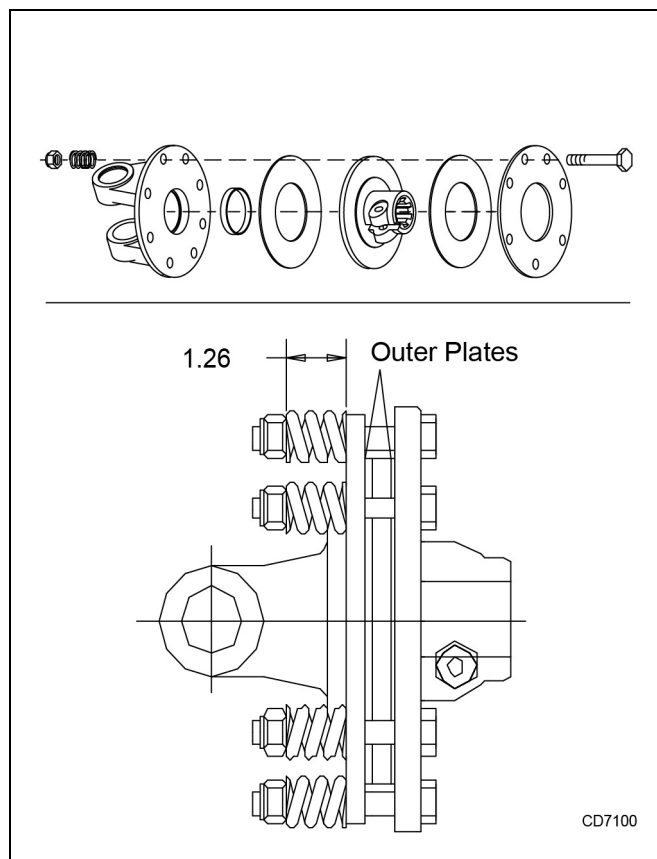

Figure 12. Slip Clutch Assembly
3. Mark outer plates of slip-disc clutch as shown in Figure 12.